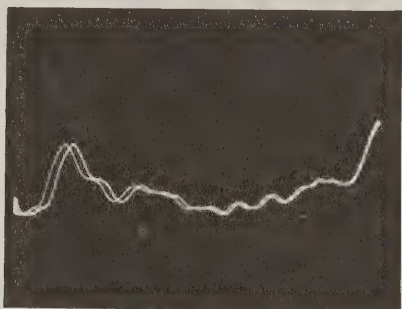

Figure 4-7. Typical Display with No Blanking
- Adjust oscilloscope and RF Plug-in POWER LEVEL control for display similar to typical display shown in Figure 4-7.